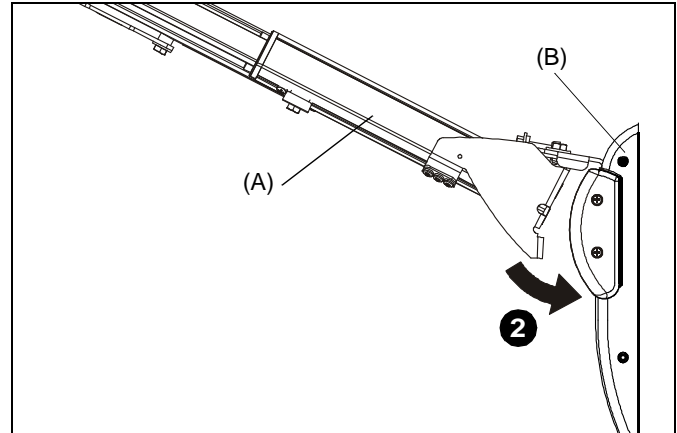

Figure 14
2. Slide lower plate onto cross bracket on mounting bracket. (See Figure 14)